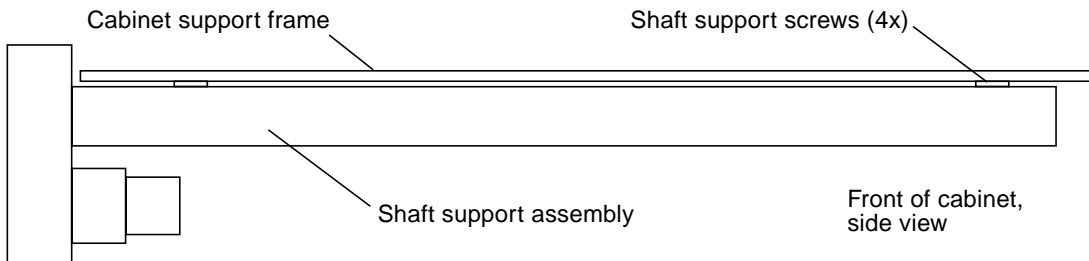

FIGURE 6-24 Linear Actuator Device Shaft Support Screws
3. **Remove the shaft support screws shown in FIGURE 6-24. Access these screws from underneath the center of the shaft at the rear and front of the cabinet.**
2. **Replace the shaft support screws shown in FIGURE 6-24. Access these screws from underneath the center of the shaft at the rear and front of the cabinet.**